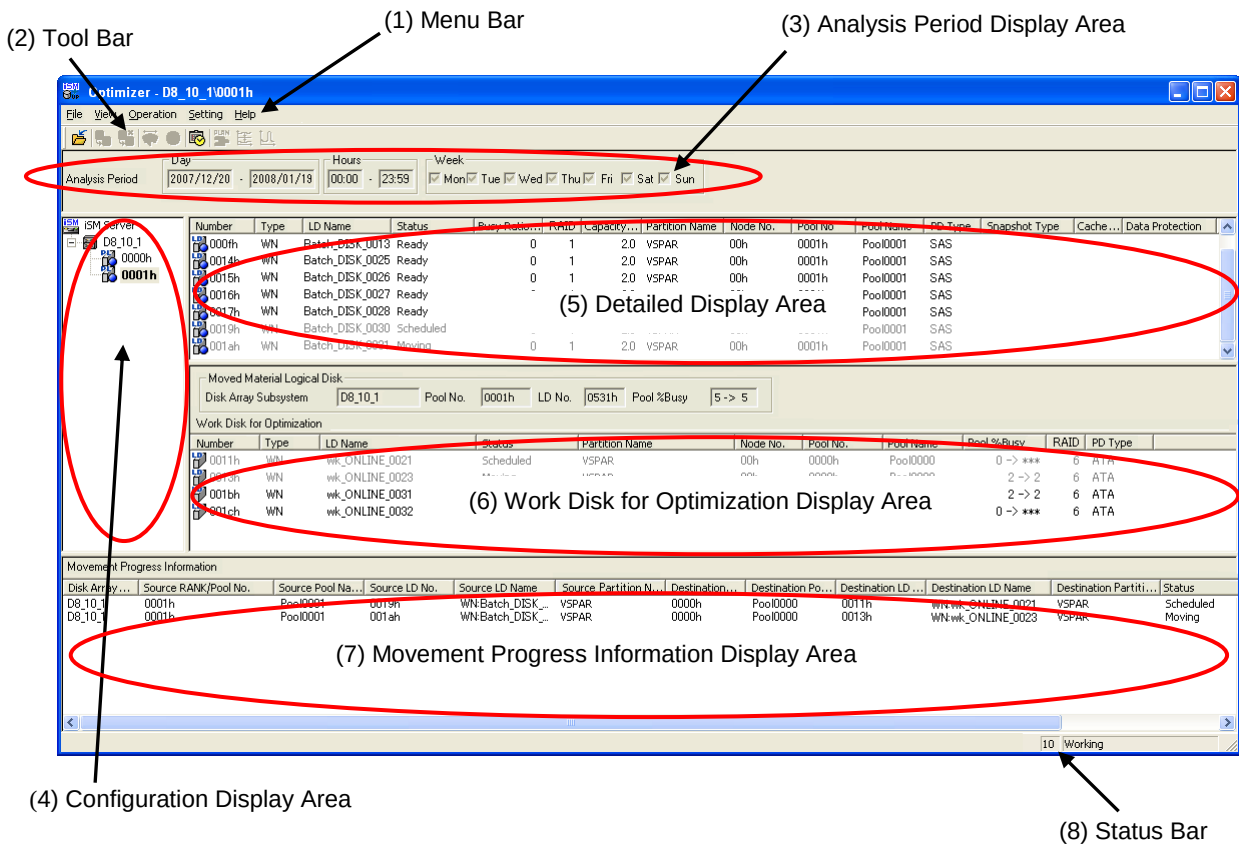

Figure 3-1 AutoTier Screen
Figure 3-1 shows the AutoTier main screen. This section will describe the composition of the screen.
The screen is divided into eight areas from (1) to (8), as shown in Figure 3-1. Descriptions for each area are as follows: